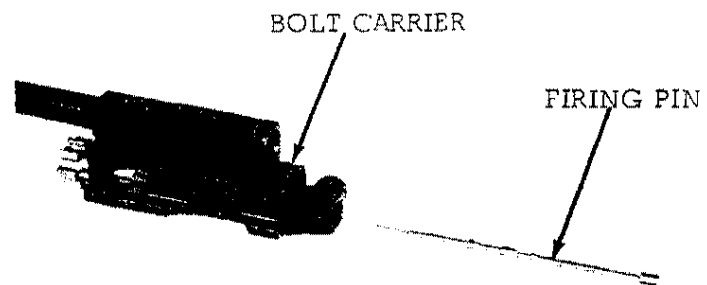

FIGURE 22. FIRING PIN REMOVED
- (2) Remove the firing pin from the bolt carrier (figure 22).